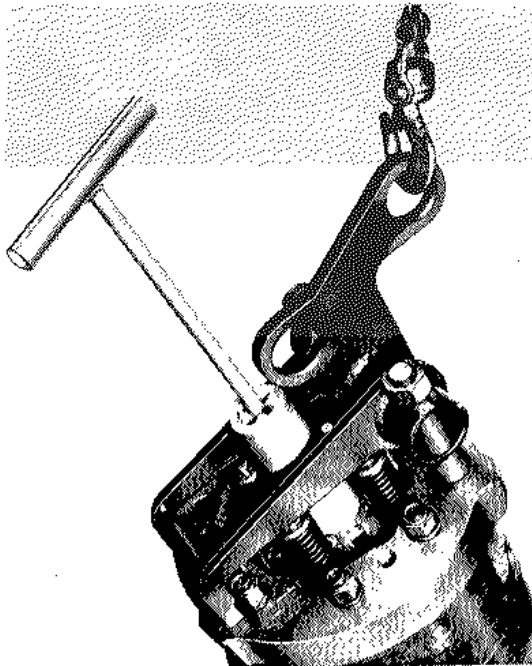

Fig. 5-12 - Power Assembly Removal With Lifting Clamp And Hoist
42. Attach an overhead chain hoist to the lifting clamp, Fig. 5-12. While guiding the power assembly, remove it from the engine.